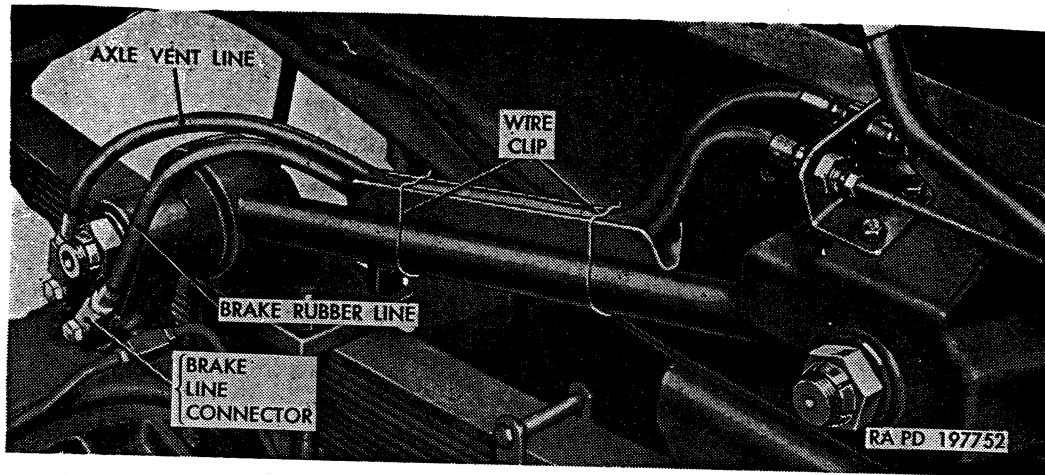

Figure 252. Frame to axle rubber line installed (front axle shown).
- (2) *Frame to axle rubber line replacement* (fig. 252).